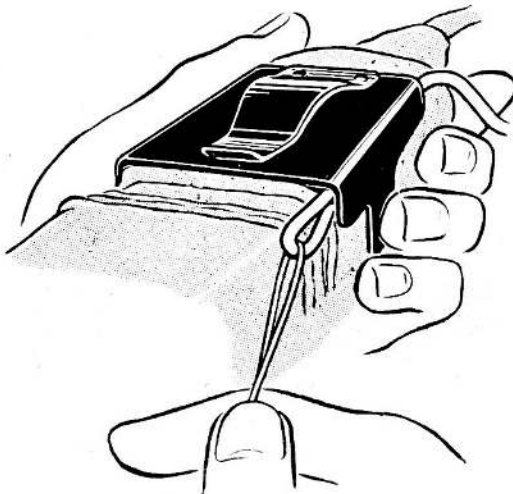

Fig. 11. Connecting the beacon to the battery switch pin—first stage
- (2) Holding the beacon as shown in fig. 11, loop a length of suitable wire or cord through the length of cord on the